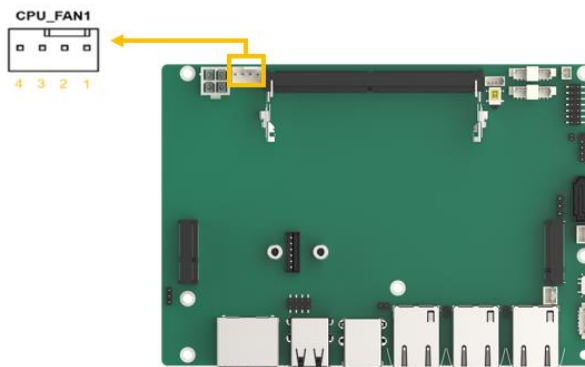

Figure 4-3: CPU Fan Connector Location
- CN Location:** See **Figure 4-3**